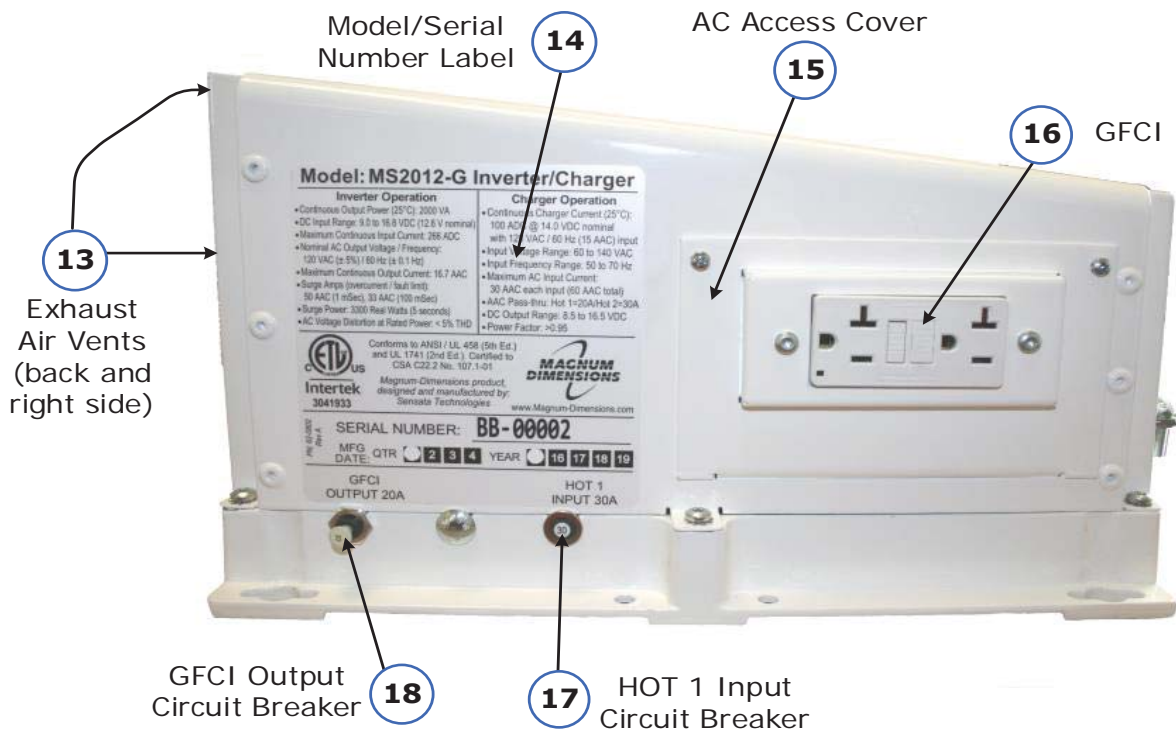

Figure 1-3, Left Side Features
The left side of MS-G Series inverters are equipped with the following features (refer to Figure 1-3):
**Ventilation** – In order for the inverter to provide full output power and to avoid over-temperature fault conditions, do not cover or block the inverter’s ventilation openings or install this inverter in an area with limited airflow. The inverter uses two fans to provide forced air cooling, these fans pull in air through the intake vents (Figure 1-2, Item 9) and blow out air through the exhaust vents (Figure 1-3, Item 13). Allow at the minimum an airspace clearance of 6” (15.2 cm) at the intake and exhaust vents, and 3” (7.6 cm) everywhere else to provide adequate ventilation.